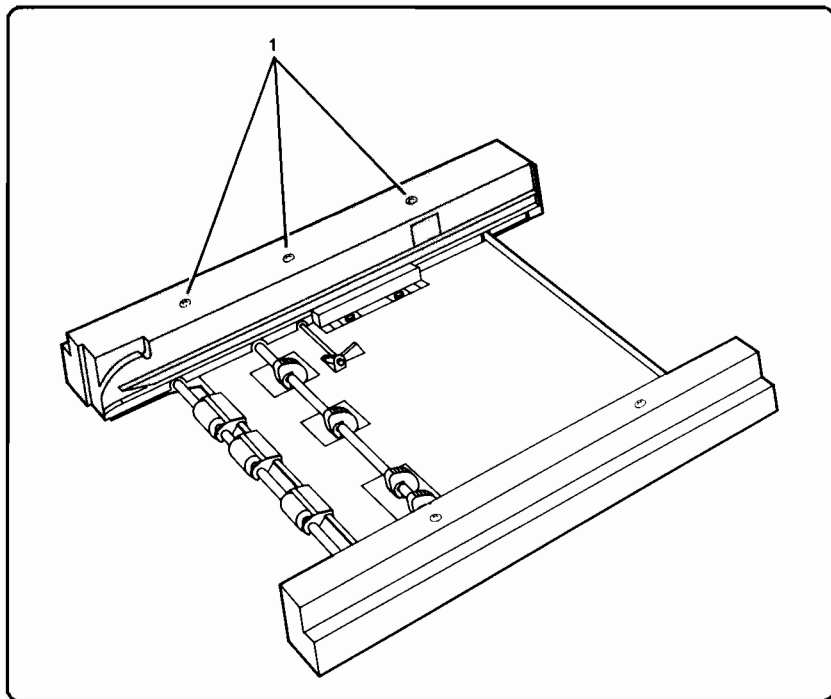
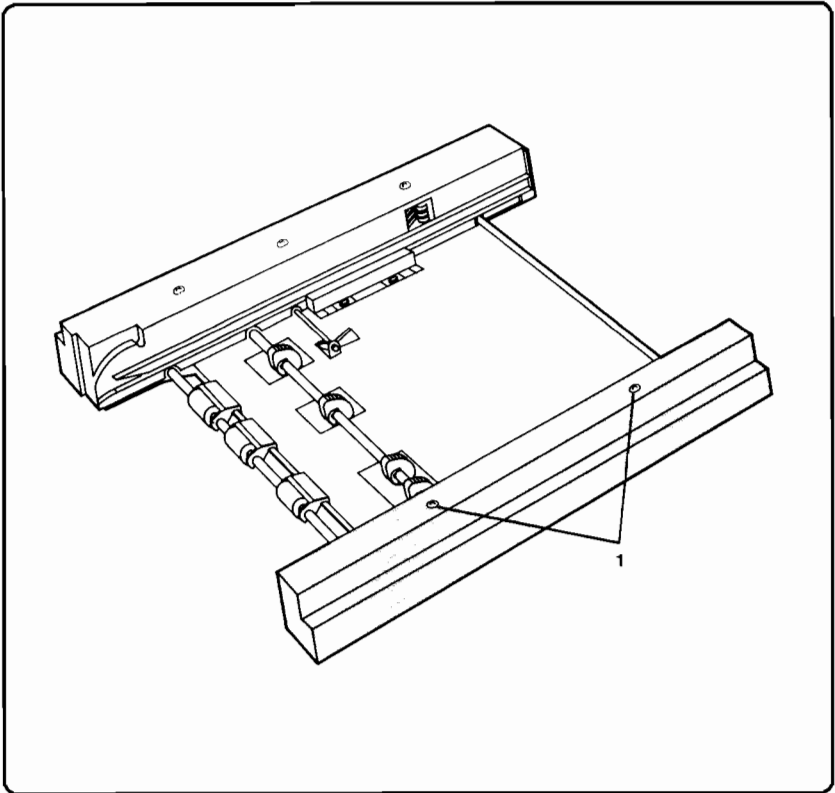

Figure 6-8. Right LC Base Cover Removal
Figure 6-9. Left LC Base Cover Removal
3. Turn the base over and remove the screws (3) securing the Right LC Base Cover to the base (see Figure 6-8, callout 1).
2. Turn the base over and remove the screws (2) securing the Left LC Base Cover to the base and then lift to remove the cover (see Figure 6-9, callout 1).
3. Remove both the Right and Left Base Covers (see Figure 6-8 and Figure 6-9).
3. Remove the Right and Left Base Covers (see Figures 6-8 & 6-9).
3. Remove the Right LC Base Cover (see Figure 6-8).